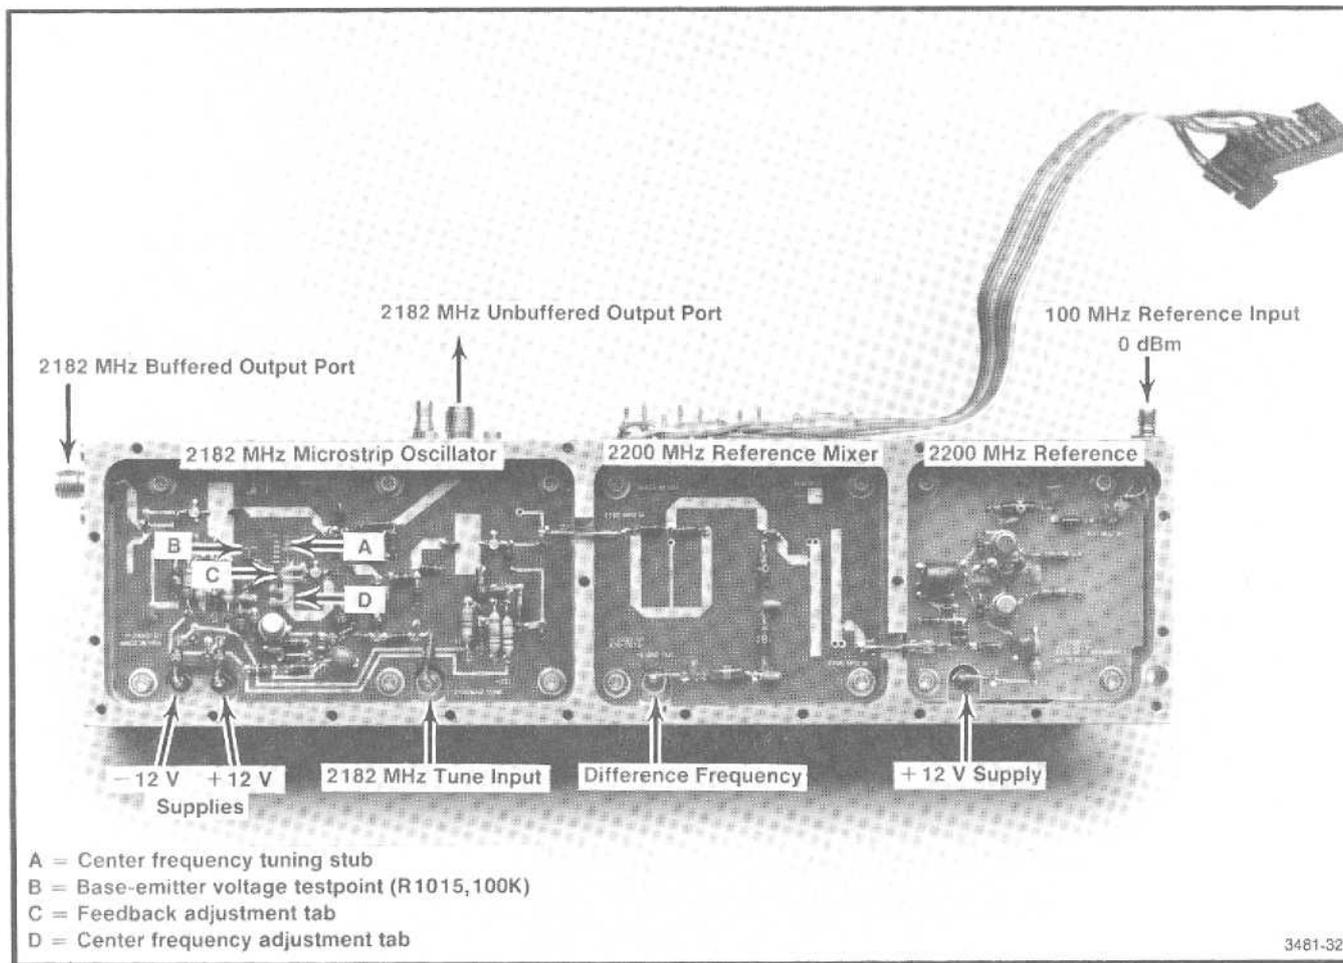

Fig. 4-14. Adjustments and test point locations within the oscillator section.
d. Refer to Fig. 4-14. Connect a 50 termination to the 2182 MHz buffered output port. Set the variable supply to 0 volts. Connect the + terminal of the supply to the 2nd LO housing; connect the - terminal to the exposed end of C2203 and L2031 through a 1 k $\Omega$  resistor. Connect the 100 MHz 0 dBm signal from the signal generator to the 100 MHz Reference Input port. Set the signal generator within  $\pm 20$  kHz of 100 MHz.
f. Turn on the 496/496P. Refer to Fig. 4-14 for component locations on the 2182 MHz Microstrip Oscillator board. Bend tabs C and D (the feedback and frequency adjusting tabs) over the resonator so they are angled